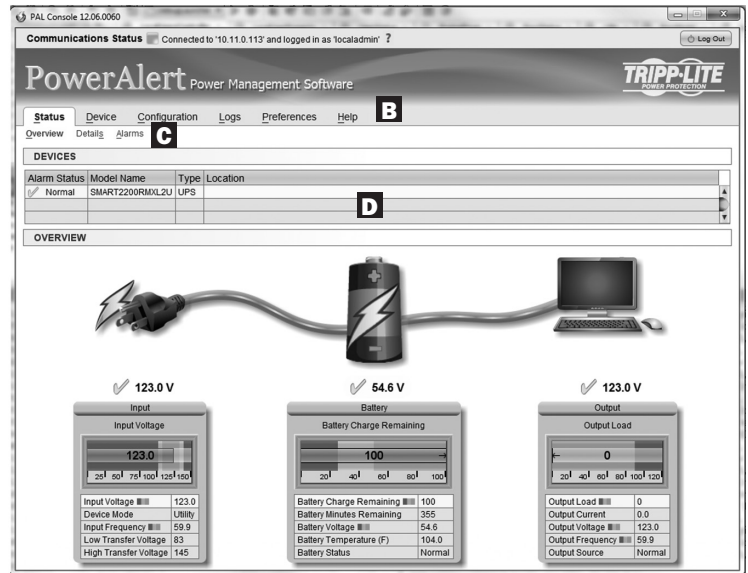

Figure 3-3: Status Page
4. After you log in, the device status page (Figure 3-3) will load in the browser window.